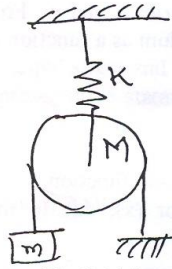

Fig.Q.1(a)
- 1 a. Find the natural frequency of the system shown in Fig.Q.1(a). The cord can be assumed to be extensible. (10 Marks)